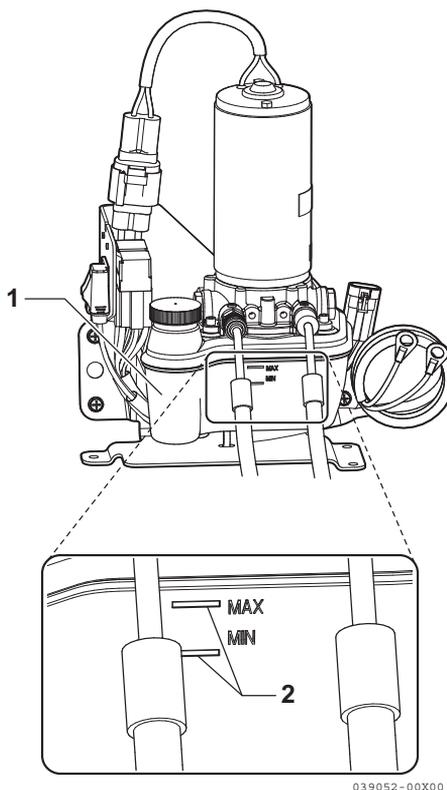

Figure 4
- Observe the oil level in the reservoir. The oil level should be maintained within the MIN and MAX lines (2, **Figure 4**) on the reservoir (1, **Figure 4**).